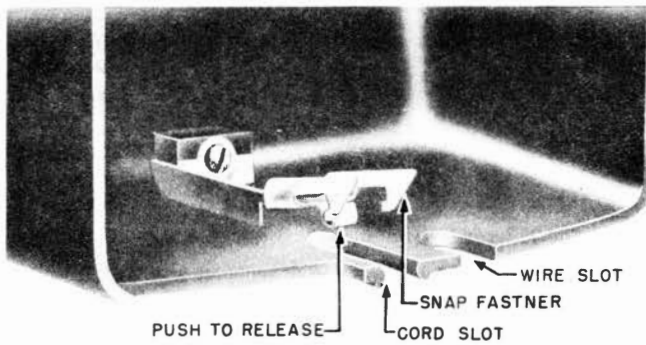

Fig. 20 — Entrance Hole in Housing of 554 Wall-type Telephone Set
7.05 The 554 wall-type telephone sets have a separate entrance hole provided for inside wire (see Fig. 20).